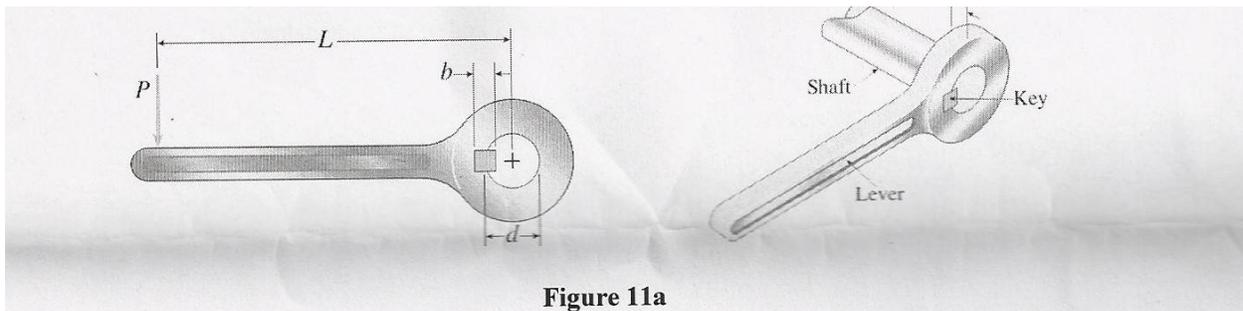

Figure 11a
11. a. A specially designed wrench is used to twist a circular shaft by means of a square key that fits into slots (or Keyways) in the shaft and wrench as shown in the figure 11a. shaft has diameter d , the key has a square cross section of dimensions $b \times b$, and the length of the key is c the key fits half into the wrench and half into the shaft (i.e. the keyways have a depth equal to $b/2$) derive a formula for the average shear stress in the key when a load p is applied at distance L from the center of shaft Disregard the effect of friction assume that the bearing pressure between the key and the wrench is uniformly distributed and draw free-body diagrams of the wrench and key. (12)